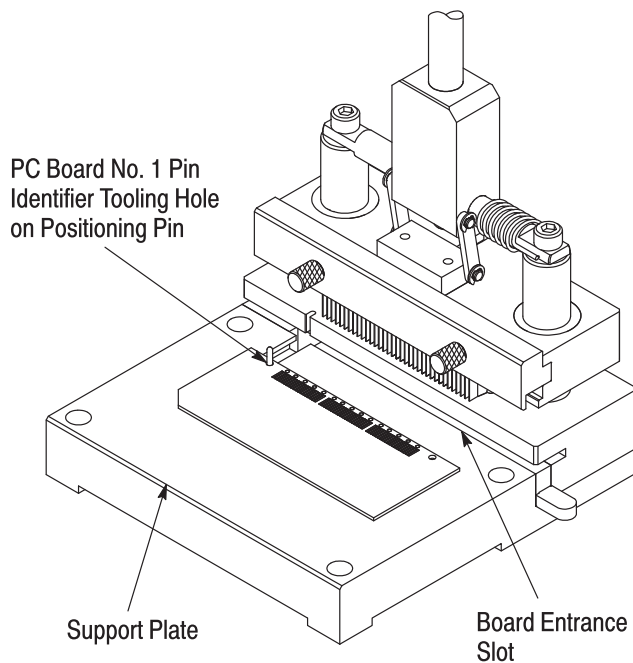

Figure 6
2. Place the pc board onto the support plate with the No. 1 pin identifier tooling hole on the positioning pin. See Figure 6.